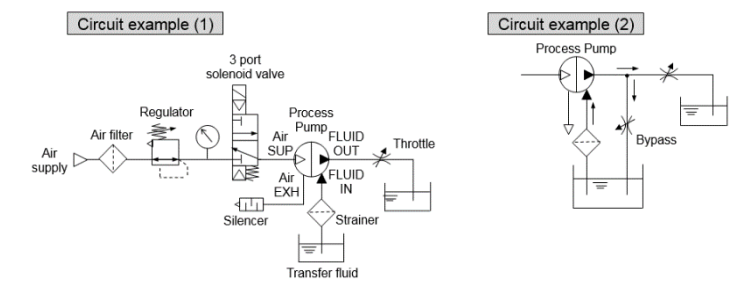

Fig.2. Automatically Operated Circuit Examples
Refer to [Fig. 2] for circuit examples.
<Starting and Stopping> Refer to circuit example (1) [Fig. 2].
- To adjust the flow rate from the discharge port <FLUID OUT>, use the throttle connected to the discharge side. Refer to circuit example (1) [Fig. 2].
- When operating with a discharge flow rate below the specification range, provide a by-pass circuit from the discharge side to the suction side to ensure the minimum flow rate inside the process pump. With a discharge flow rate below the minimum flow rate, the process pump may stop due to unstable operation. Refer to circuit example (2) [Fig. 2] (Minimum flow rates: 55-PA3##0 - 1L/min, 55-PA5##0 - 5L/min).